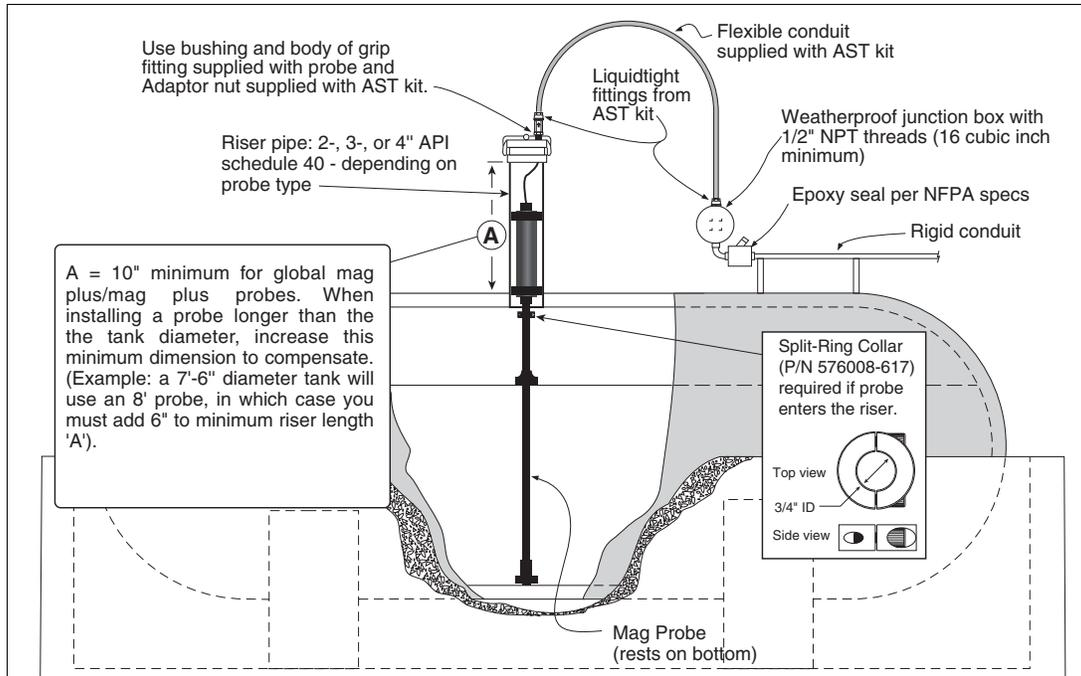

Figure 14. AST Mag Plus Probe Installation - Dedicated Riser
4. Gently slide the float(s) to the bottom of the probe shaft before raising the probe. Carefully lower the probe into the riser pipe until the boot rests on the bottom of the tank [See Figure 12 for example UST installation, Figure 13 for example UST installation with I.S. Circuit Protector or Figure 14 for example AST installation].